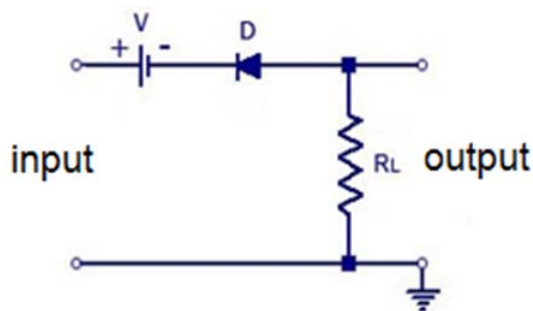
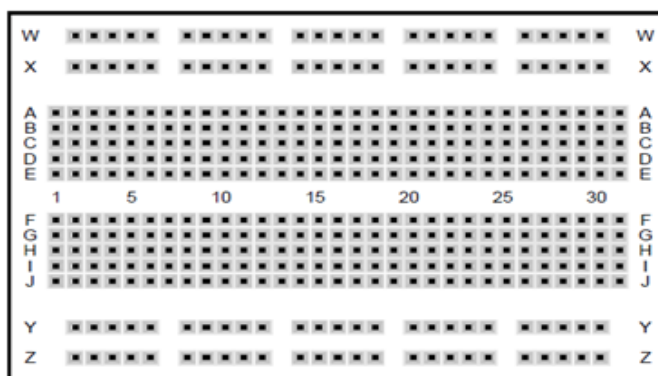

FIGURE 4.7.4
FIGURE 4.7.5
- 4.7.2 Construct the series biased clipper circuit in FIGURE 4.7.4 below on the breadboard in FIGURE 4.7.5 below. Draw the component layout on the figure.